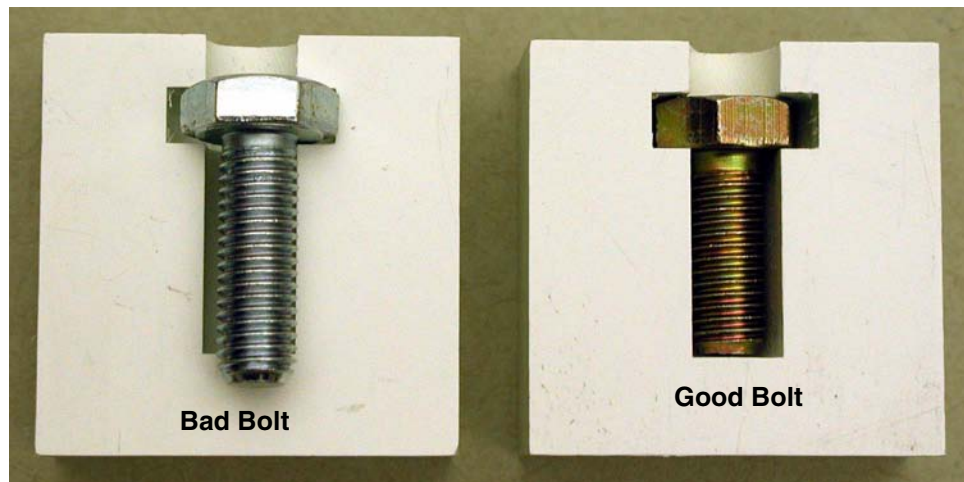

Figure 4 - Measuring Block Usage: 30mm bolt shown at left, 25mm bolt shown at right
- 3.) Using the measuring block provided, verify that the bolt is a M10 x 25mm bolt. Make certain to fit bolt *inside* the block, *not outside* (see Figure 4). M10 x 25 mm bolt on right fits completely within measuring block. Note that the 30 mm long bolt does not fit in the block with the bolt head in the slot.